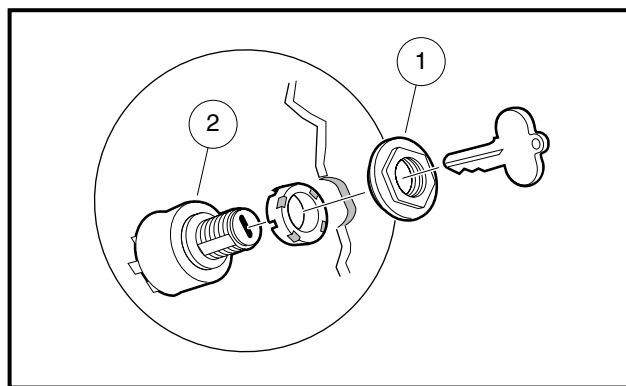

Figure 12b-17 Key Switch Removal
- 4.1. Remove the key switch nut (1) (**Figure 12b-17, Page 12b-12**).